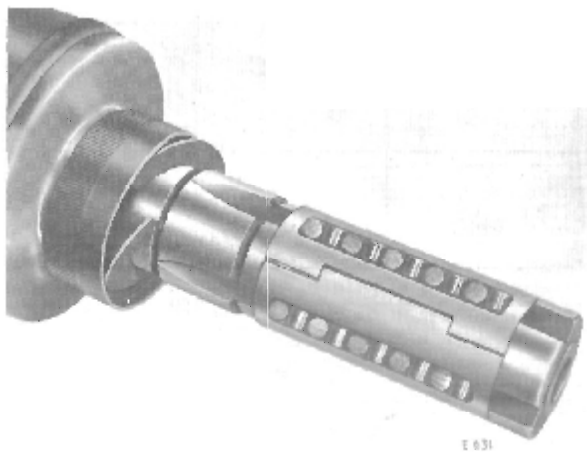

Fig. 4. Arrangement of rollers
Fill the four grooves along the shaft (7) with the grease specified on page 2-401. Fit the roller end-travel restrainers (8), and through their slots stack ten rollers into each groove as shown in Fig. 4.